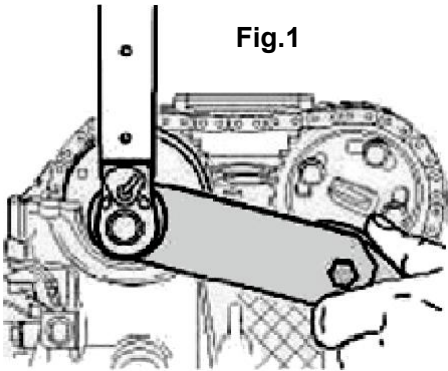

Fig.1
1. Camshaft locking tool, to align the camshaft at TDC position for 996, 997 as of 2005. (Fig.1)